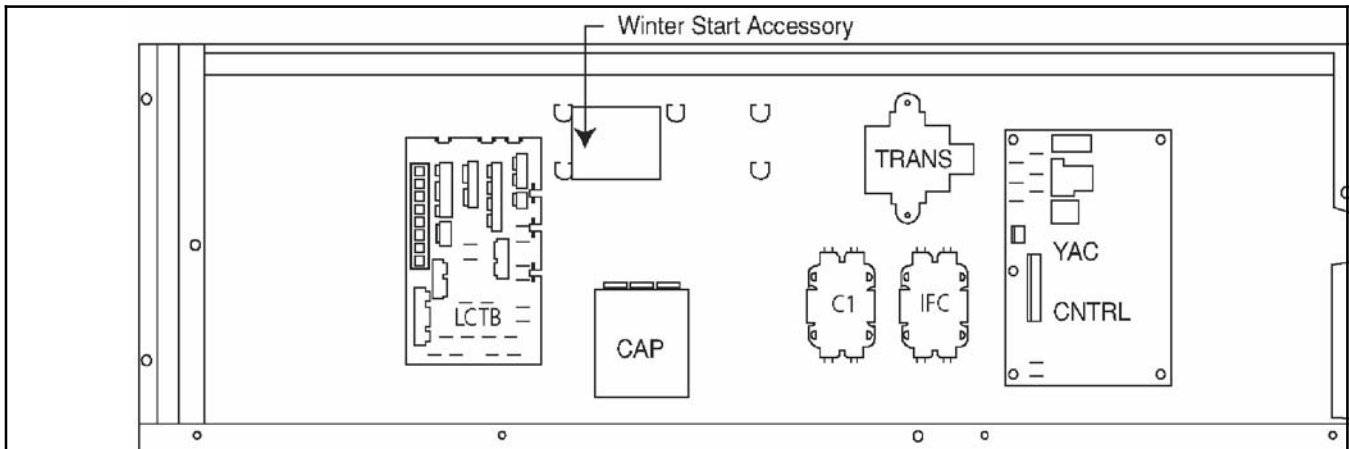

Fig. 11 - Winter Start Accessory Location for 3-10 Ton Rooftop Units with R-410A Refrigerant and Single Circuit
1. Install the Time-Delay Relay(s) in the area shown in the control box, using field-supplied screws. (See Fig. 11.)